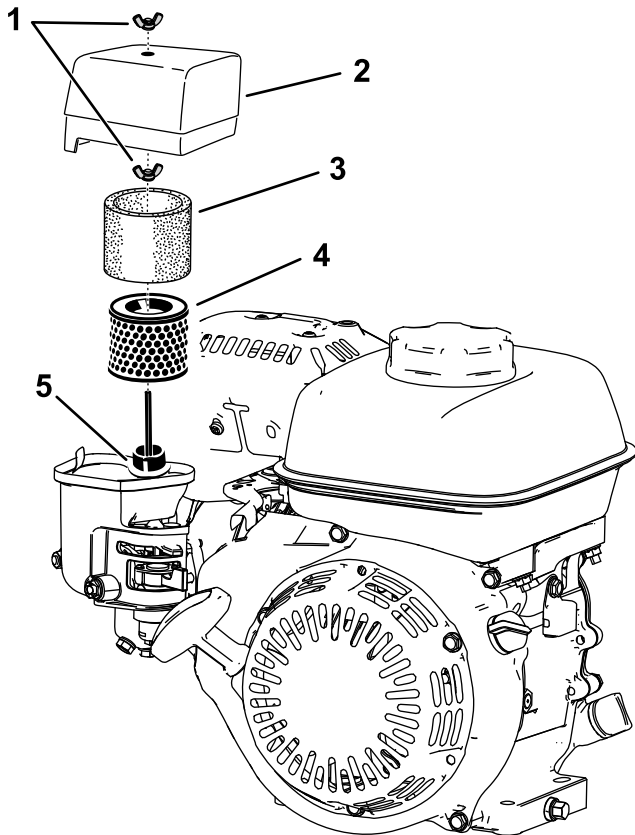

Figure 17
2. Remove the wingnut securing the air-cleaner cover (Figure 17).